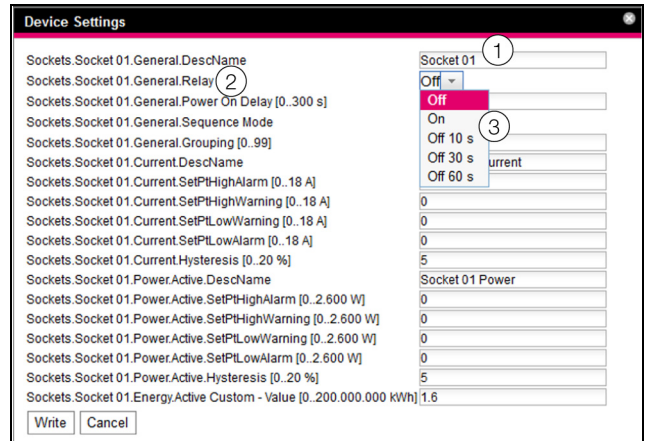

Fig. 42: Performing switch commands
DescName	Individual description that was assigned to the output or socket (fig. 42, item 1).
Device	The device index (ID number) that is prefixed to the associated Real Device in the navigation area of the PDU website (fig. 42, item 2).
Command	The command to be performed. The following commands are supported: "Off", "On", "Off 10 s", "Off 30 s", "Off 60 s" (fig. 42, item 3).